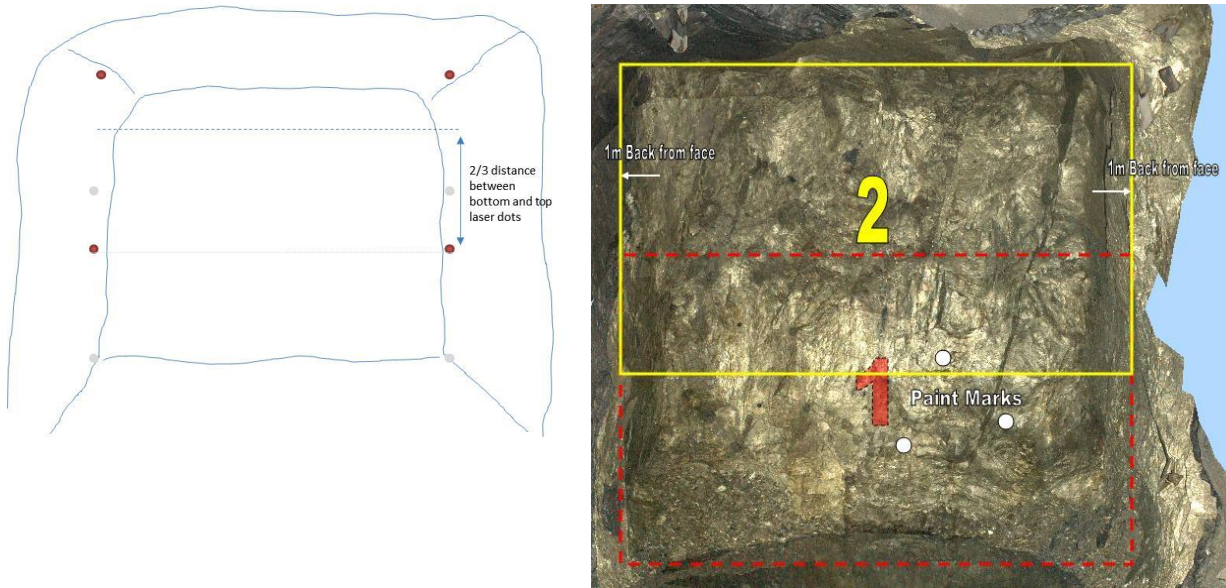

FIGURE 10: ALIGNMENT OF LASER DOTS – IMAGE 2
6. **Second capture** – align bottom laser dots with the feature identified in the first shot. Again, identify a feature 50% of the distance from the bottom to the top laser dots (see Figure 10). Essentially you are capturing 50 % overlap between the red and yellow rectangles.